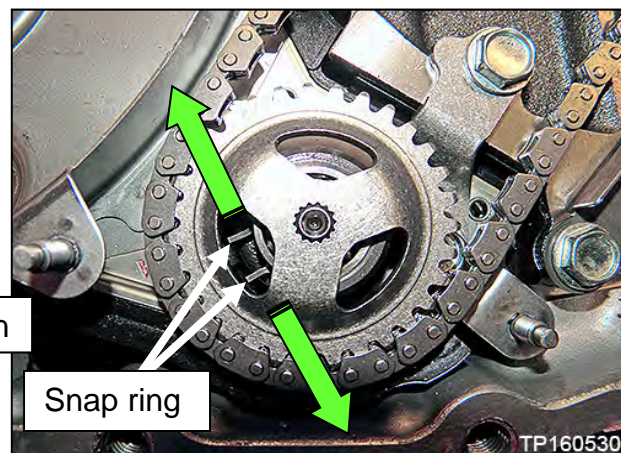

Figure 44
- Spread the snap ring to remove the sprocket (Figure 44).